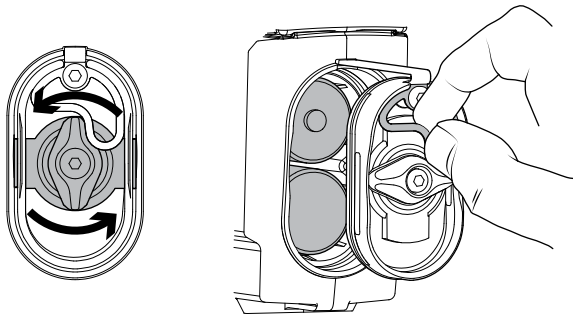

Figure 4: Removing the Battery Compartment Lid
- c. Unlock the Battery Compartment Lid by twisting the Battery Lock Lever counter clockwise one-quarter turn. Once unlocked, pull the lid away from the Battery Compartment (the lid will stay attached by a tether as shown in Figure 4).